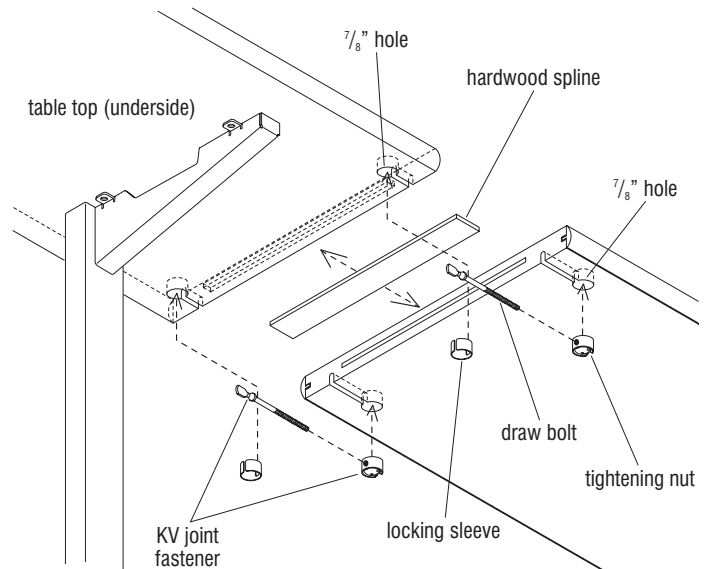

Figure 3
8. Table tops are to be joined together from underneath with two KV joint fasteners per pair of table tops (Figure 3). First join both table tops together, aligning the hardwood spline (installed in one table top at the factory). Check to make sure hardwood spline fits snug in both table tops. If it does not, lightly sand down the spline so it does fit. If this is not done, it may be difficult to get a tight fit on the table top seam. The spline joint and table top seams are to be glued using the adhesive supplied with the KV fasteners. Do not use a wood glue for seam gluing as the working time for that adhesive is too short. Then, thread each draw bolt a few turns into each tightening nut and press each pair up into a  $\frac{7}{8}$ " hole and slot. The flat end of each draw bolt will be visible in the  $\frac{7}{8}$ " holes of the table top being joined. Insert locking sleeves into the  $\frac{7}{8}$ " holes so that the slotted sleeve engages the rounded collar on the bolt (Figure 3). Tighten the nut with a tightening tool or nail set. Check the top side of the joint for proper alignment. The joint should be smooth and level with no gaps. Adjust as necessary to achieve a "seamless" look. Once the seam is glued, use the C-clamps to clamp either end of the seam.